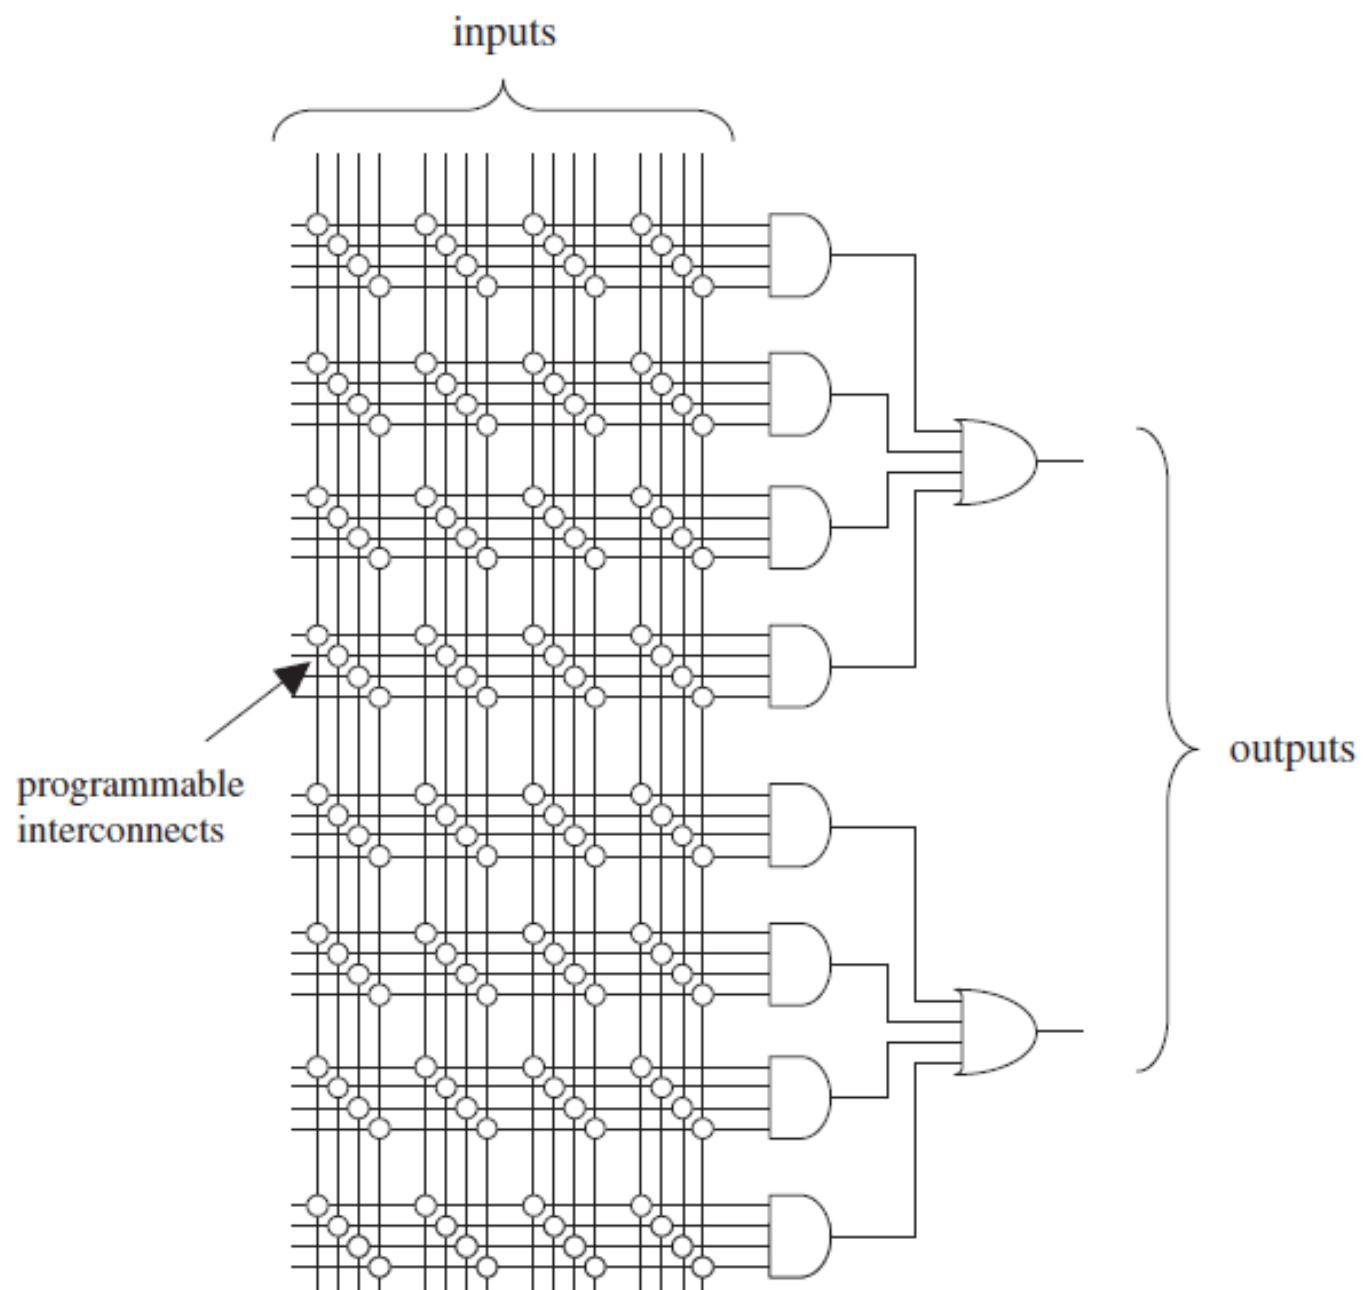

Figure A1
- These included a flip-flop at each output (after the OR gates in figure A1), allowing the implementation of sequential functions.